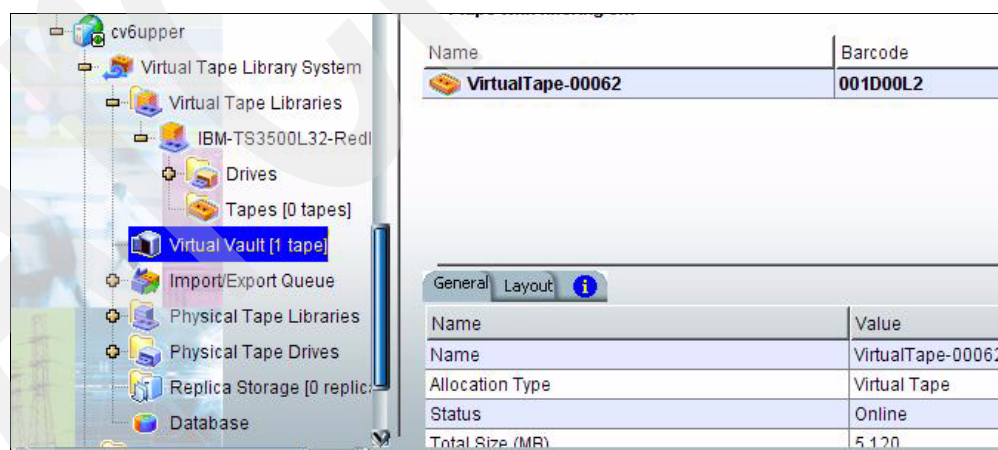

Figure 12-33 Virtual tape now assigned to target node
- You will now see a verification window on which you must click **Next** to continue. This is followed by a window indicating the success or failure of the procedure. Upon completing the process you are able to see the virtual tape has now moved to the target location as shown in Figure 12-33.